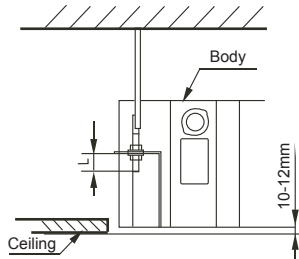

Fig. 5-6
- Adjust the position to ensure the gaps between the body and the four sides of ceiling are even. The body's lower part should sink into the ceiling for 10~12 mm (refer to fig.5-6)
- In general, L is half of the screw length of the installation hook.(refer to fig.5-6)